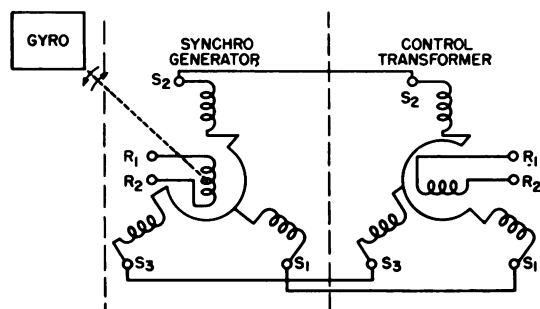

Figure 2C.
27. The amplitude of the signal that appears between points R1 and R2 of the control transformer in figure 2C is determined by the
28. The phase of the signal that appears between points R1 and R2 of the control transformer in figure 2C is determined by the